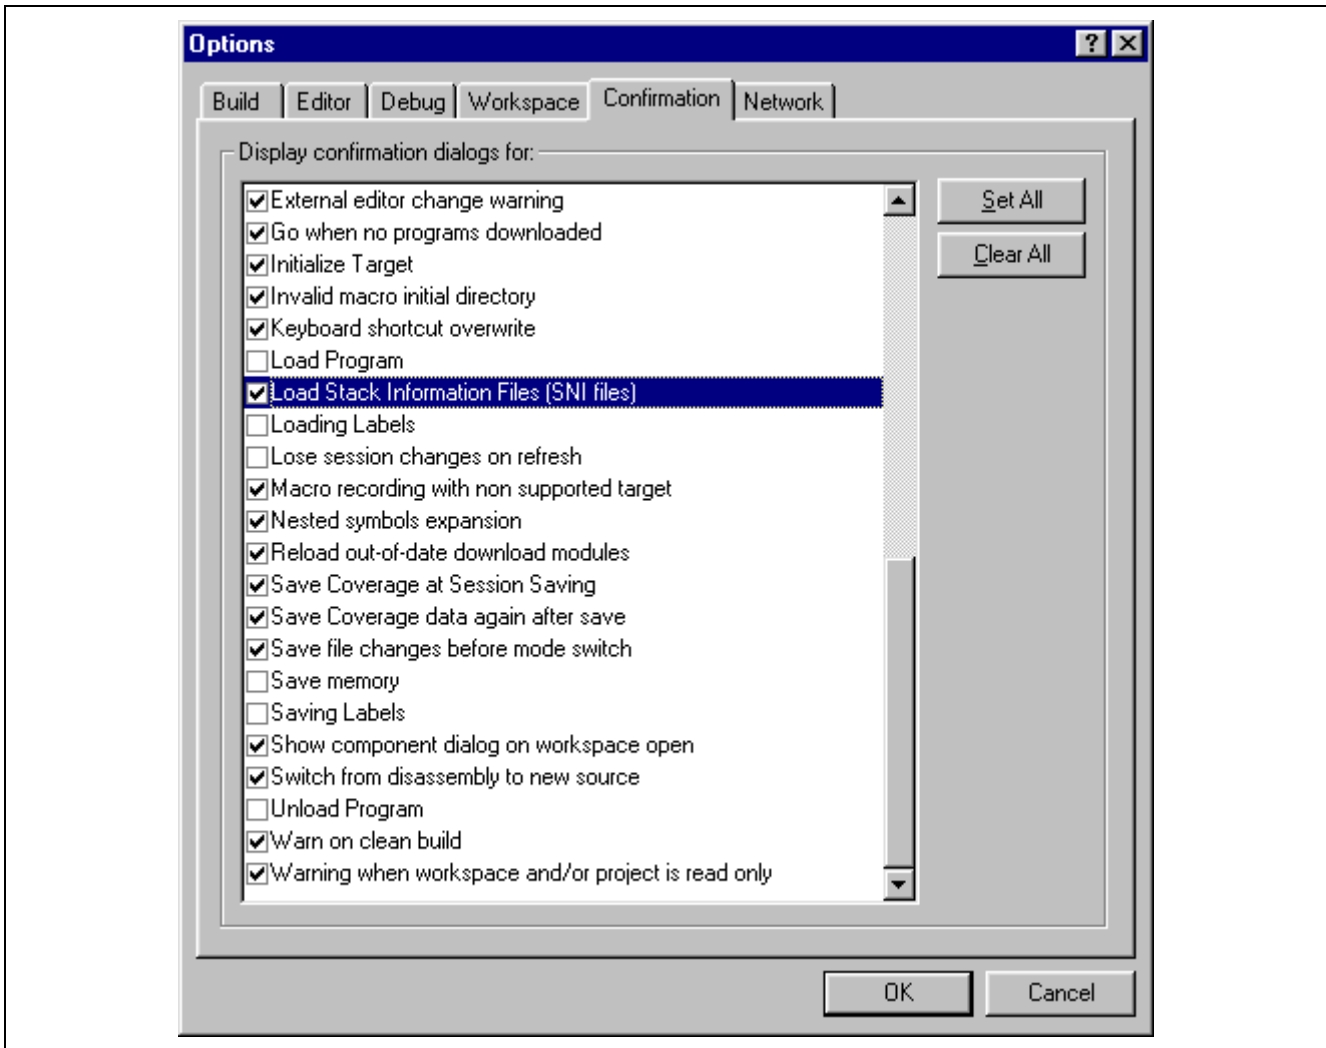

Figure 3.38 Options Dialog Box
- The [Load Stack Information Files (SNI files)] check box is checked in the [Confirmation] tab of the [Options] dialog box (figure 3.38) that can be opened by choosing [Setup -> Options...] from the main menu.